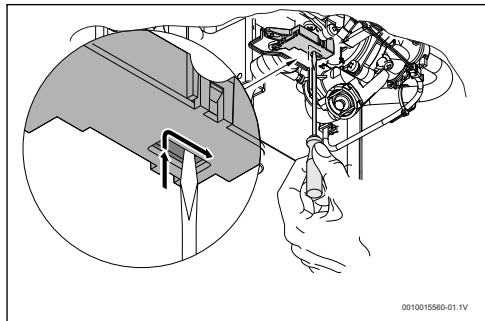

Fig. 25 Rearme do micro-interruptor
- ▶ Posicionar o micro-interruptor conforme Fig 25.